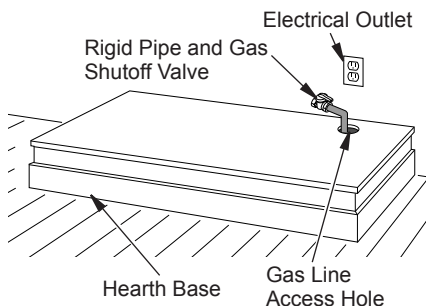

Figure 9 - Placing Hearth Base Accessory Against Wall
2. When installing blower, install a properly grounded, 120 volt three-prong electrical outlet at fireplace location if an outlet is not there. If possible, locate outlet so cabinet mantel will cover it when installed (see Figure 9).
4. Place hearth base accessory against wall at installation location. Cut an access hole in hearth top to run flexible gas line to fireplace (see Figure 9). Make sure to locate access hole so cabinet mantel will cover it when installed.